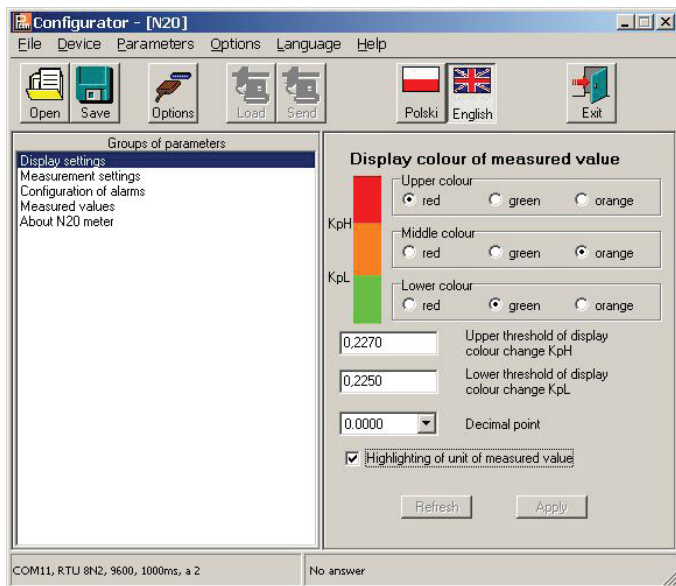

Fig. 8. Window view of the display parameter configuration
- a) display colours of the measured value. The displayed range is divided into three zones separated by KpL and KpH values (suitably the lower threshold KpL and the upper threshold KpH of display colour change – fig.8). The colour of displayed numbers for each zone is selected from three accessible colours: green, orange and red. KpL and KpH values are set by the user and concern the displayed value (i.e. taking also into consideration the individual characteristic). The manufacturer value KpL is equal 100% of the rated value, however KpH is equal 105% of the rated value, e.g. for a 10 V meter execution they are respectively: for KpL – 10 V and for KpH – 10.5 V.